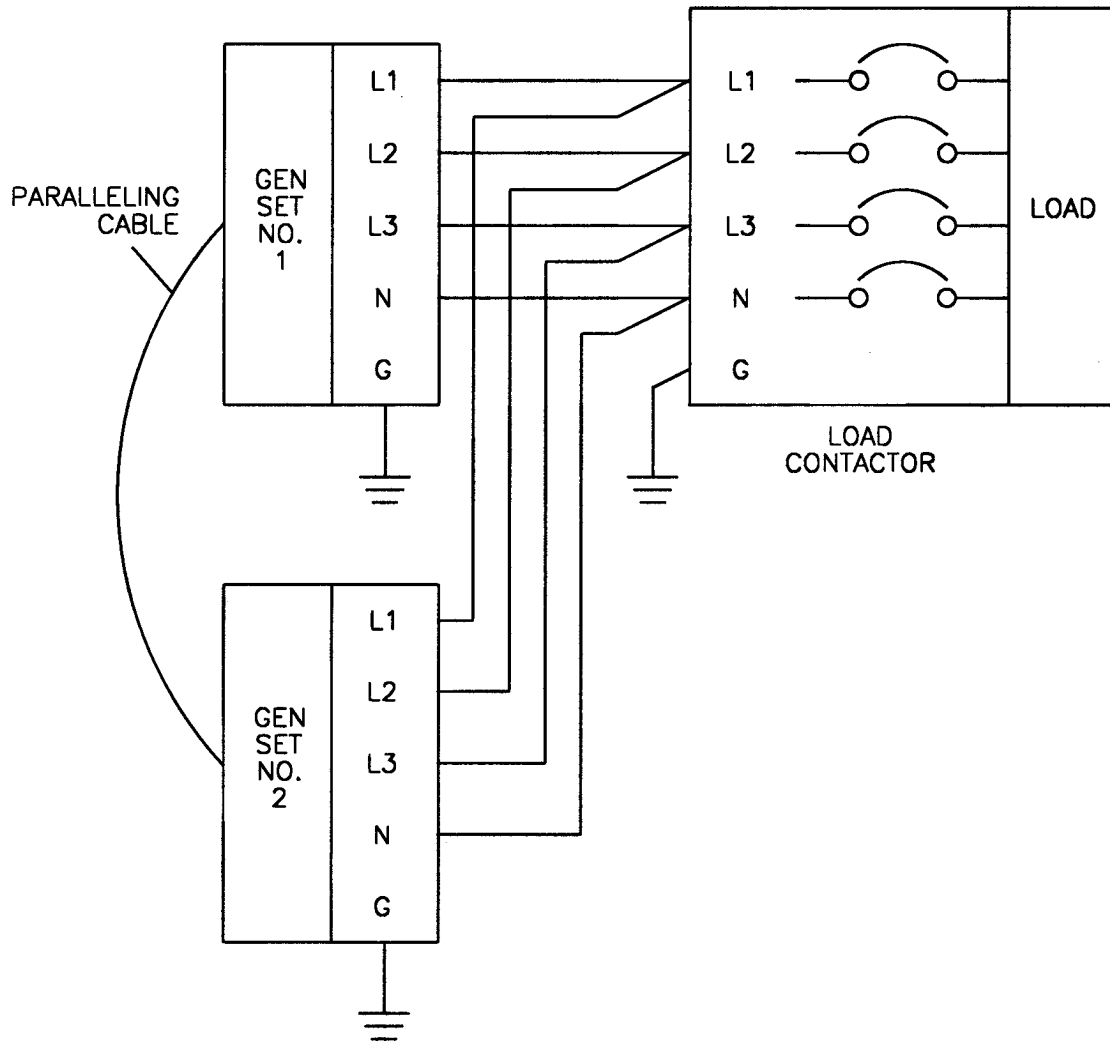

FIGURE 2-10. PARALLEL OPERATION SETUP
- 2.12.1 General. The following method of parallel operation is used to share the load between two generator sets. Refer to Figures 2-1 and 2-2 for location of operator controls and indicators mentioned below and Figure 2-10 for proper paralleling configuration.